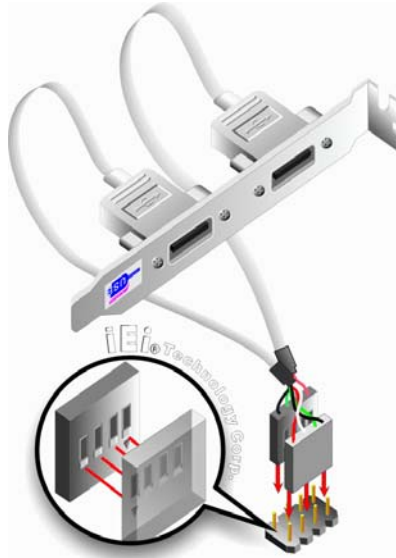

Figure 5-13: Dual USB Cable Connection
Step 3: Insert the cable connectors. Once the cable connectors are properly aligned with the USB connectors on the WSB-Q354, connect the cable connectors to the onboard connectors. See **Figure 5-13**.